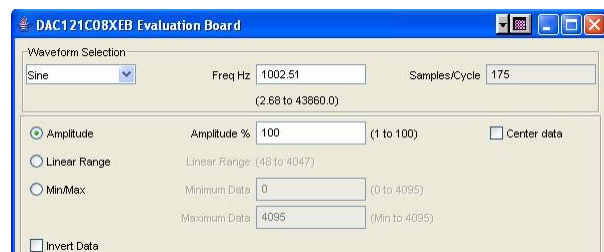

Figure 11: Waveform Configuration
10. Configure the digital waveform to be converted by the DAC as seen in *Figure 11*. Please see the *WaveVision4 User's Manual* for detailed instructions. The ability to drive preset waveforms or custom data is provided.